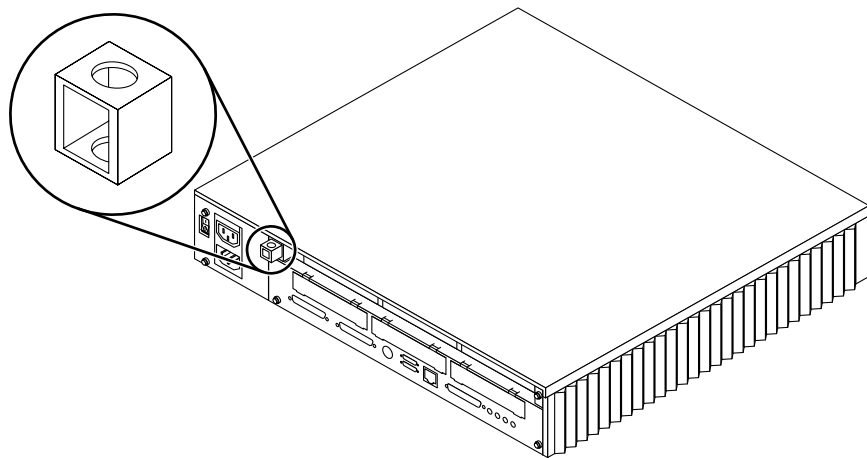

FIGURE 7-5 Lock Block
- 5. Replace the lock block (FIGURE 7-5).**